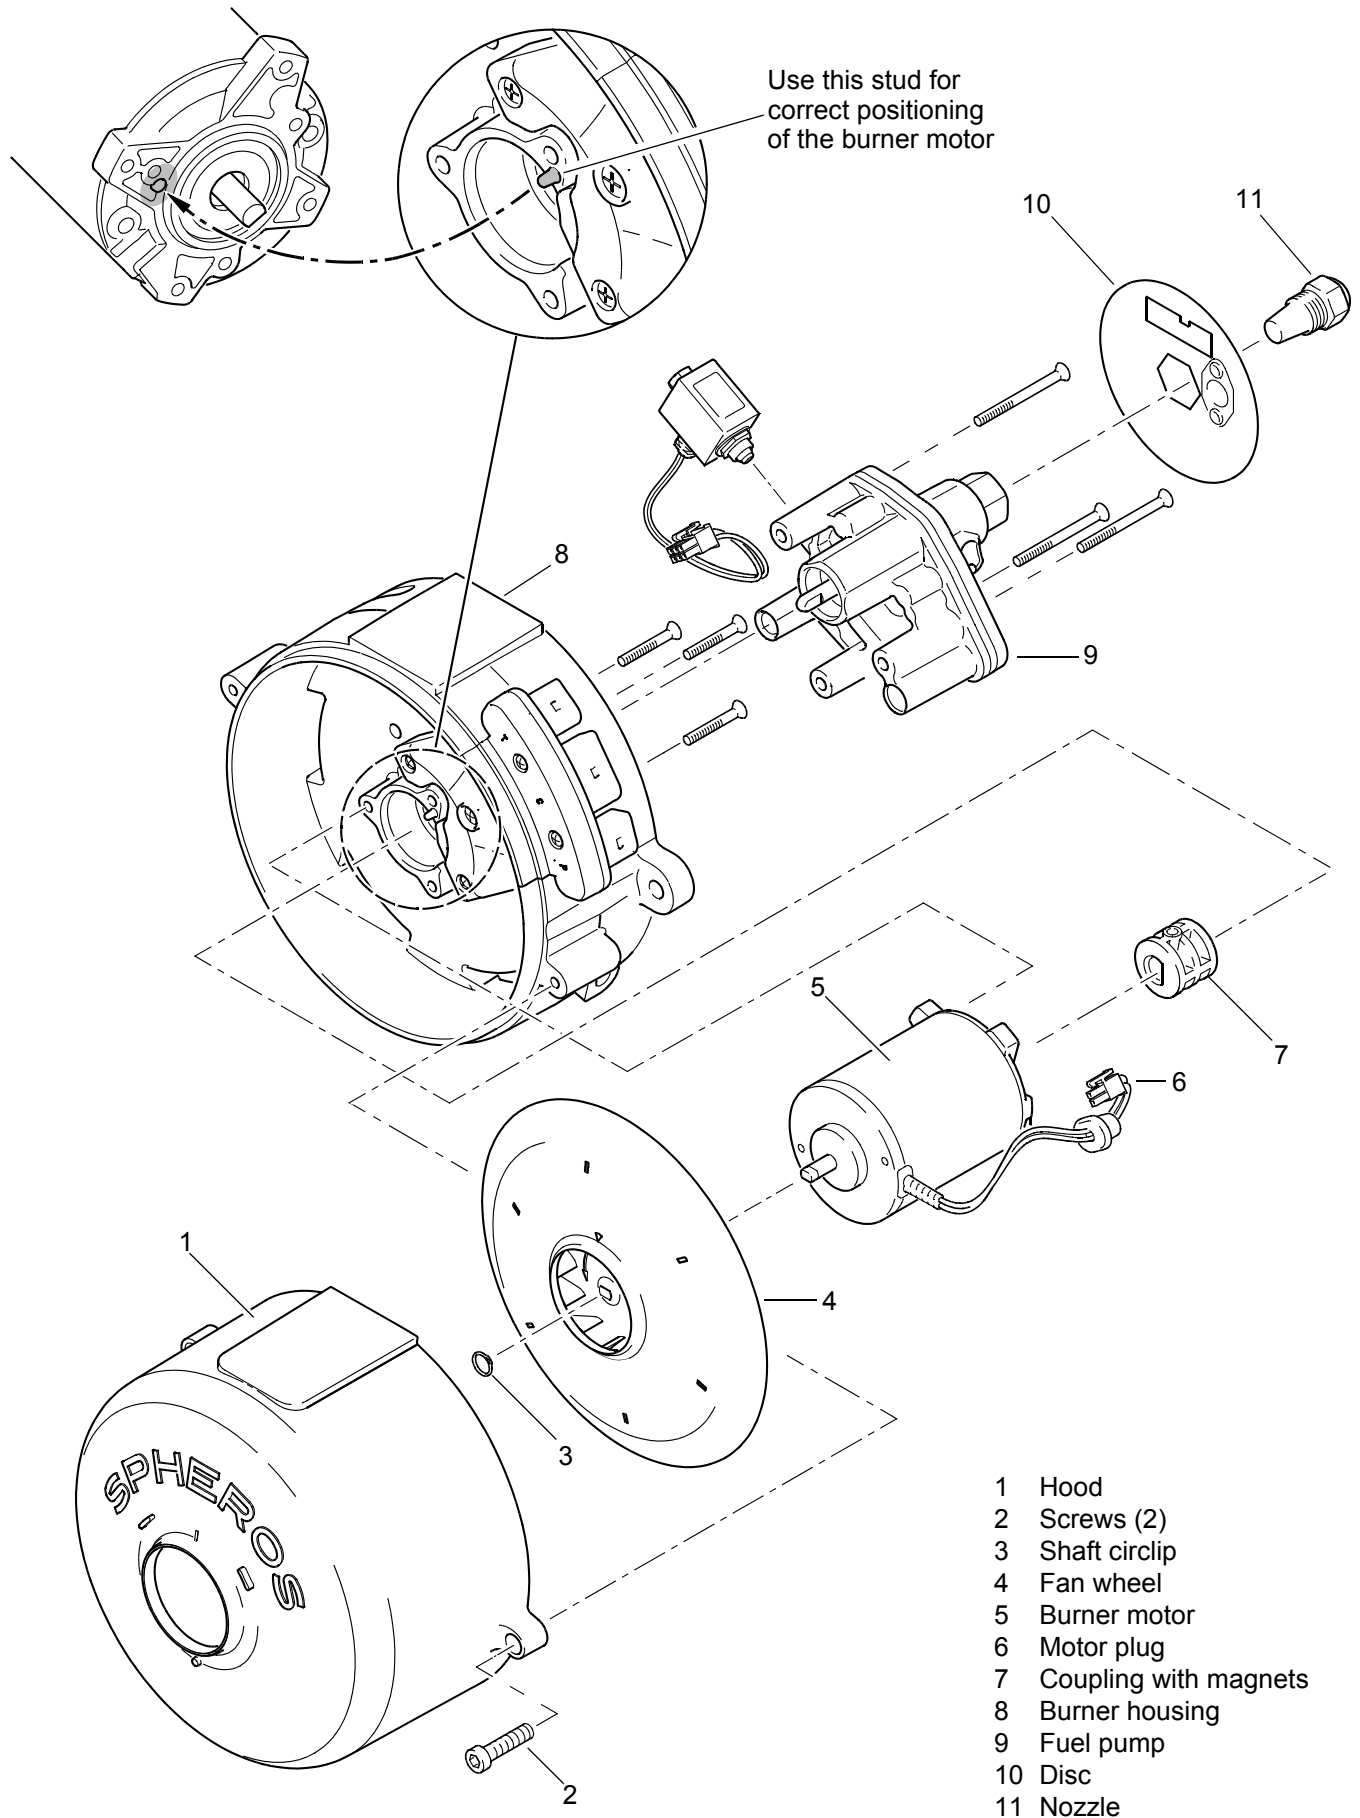

Fig. 803 Burner motor removal and installation
4. Disconnect the burner motor plug (6, Fig. 803) from control unit.
6. Remove the hood (1).
7. Remove the fan wheel (4). For that remove the shaft circlip using suitable pliers.
1. Position motor (5, Fig. 803) onto the housing (stud at the housing and hole in the motor flange).
2. Secure motor (5) with three countersunk screws M5x35 (5 +1 Nm).
3. Install fan (4). Install shaft circlip with suitable pliers.